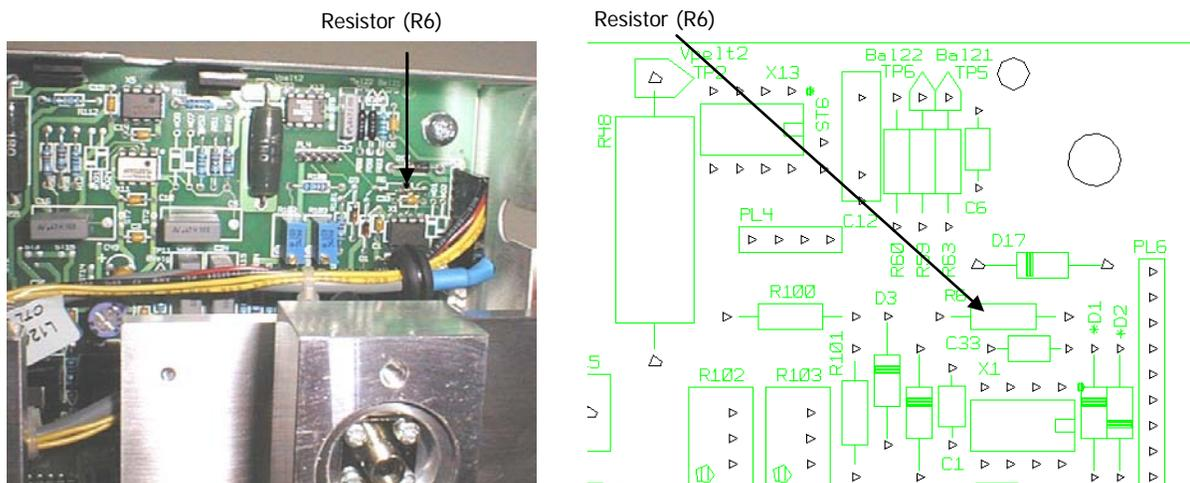

Figure 7 Resistor (R6) to be replaced
5. Remove the resistor (R6) shown in Figure 7 from the electronics assembly by pulling the resistor carefully.